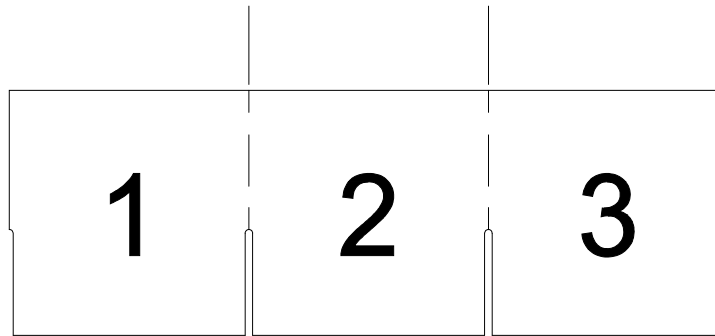

Figure 28. Shingle cut into thirds
4. **Install shingle cap.** Starting at the opposite end of the home from the prevailing wind, install ridge cap shingles provided by the manufacturer or use 12" x 12" shingles (36" shingles cut into three equal pieces indicated by the dotted line in **Figure 28**). Install using 12 ga x 1-1/4" long, 3/8" diameter head roofing nails spaced 5-5/8 inches from bottom edge and 1/2 inch to 1-1/2 inches in from both edges.